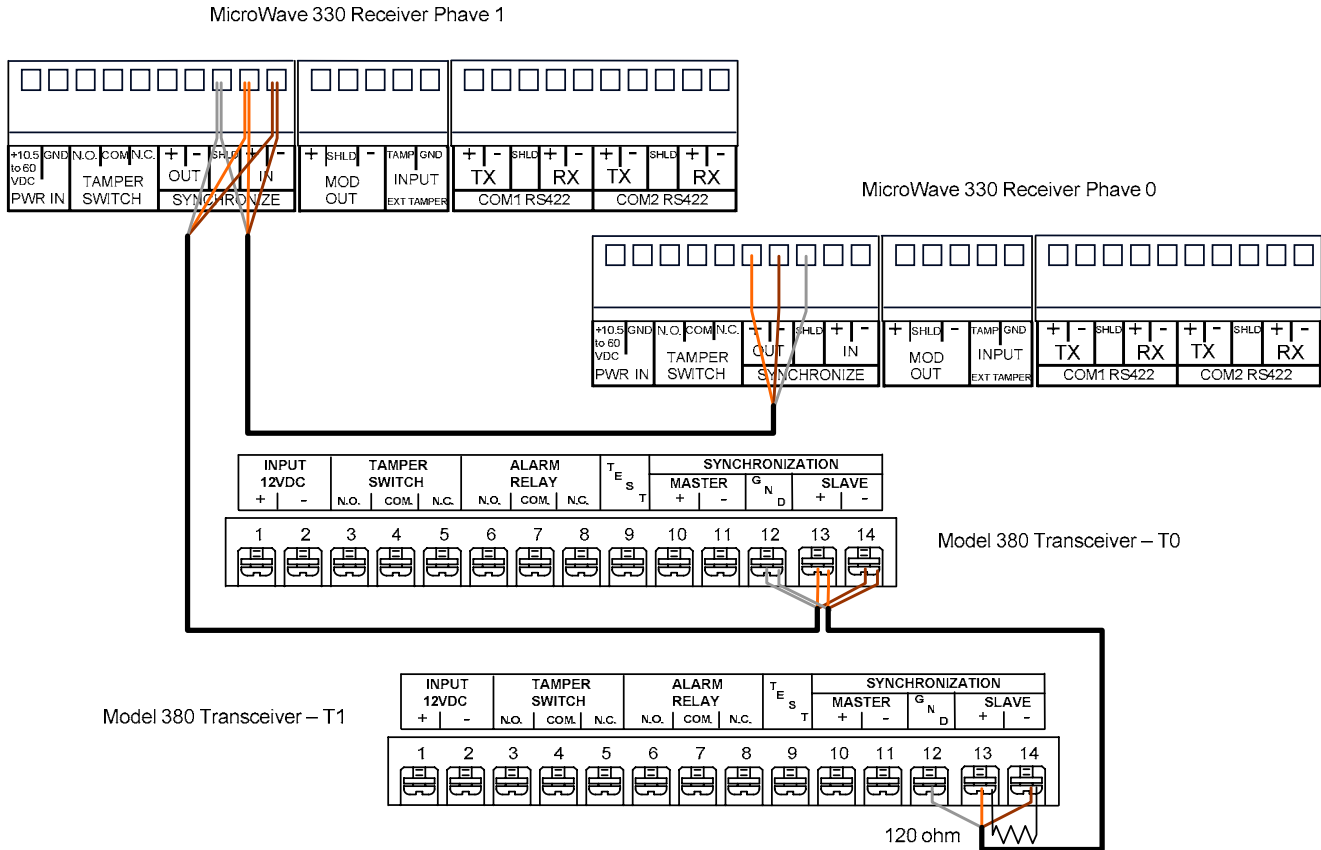

Figure 26 – Synchronization Wiring
The synchronization wiring is shown in Figure 26 for two (2) MicroWave 330 links and two (2) Model 380 transceivers. *The Phase 0 or Phase 1 setting is configured in the UIST II software program.* The synchronization line must use a 22 or 24 gauge twisted, stranded, shielded pair wire. The last unit in the synchronization chain must be terminated with a 120 ohm resistor. For setting the Model 380 or Model 358 in a synchronized mode, please refer to their respective technical manuals. *Note: all other wiring has been omitted for clarity.*